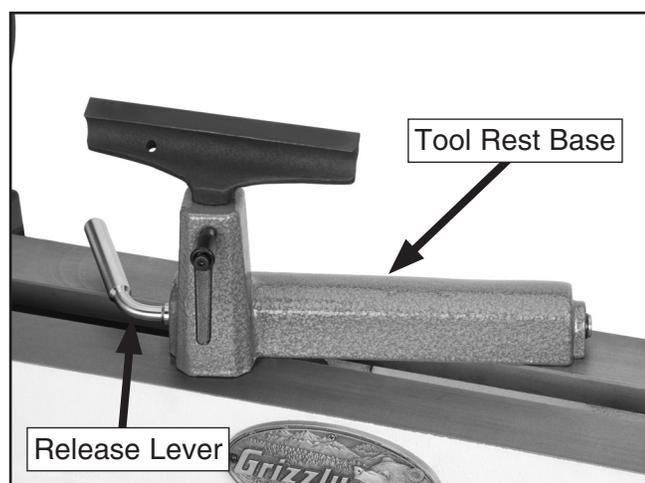

Figure 31. Safe tool rest position.
3. Release the tool rest base release lever so the tool rest moves freely, then position the tool rest so the entire base sits on the lathe bed. This will prevent the tool rest from falling when the lock nut is removed (**Figure 31**).